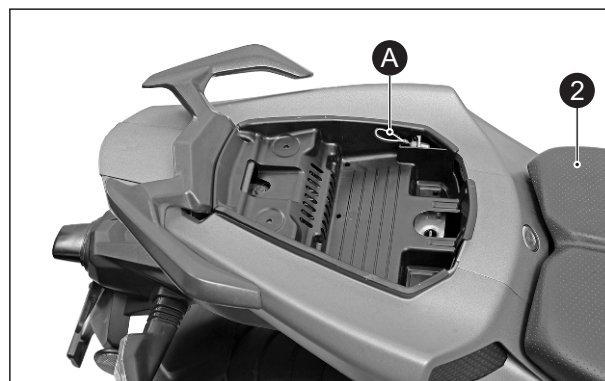

Fig. 2.3
- Pull the seat release cable (A) to release seat lock. Keeping the seat release cable pulled, lift the seat from rear end and slide it backward to remove. (Fig. 2.3)